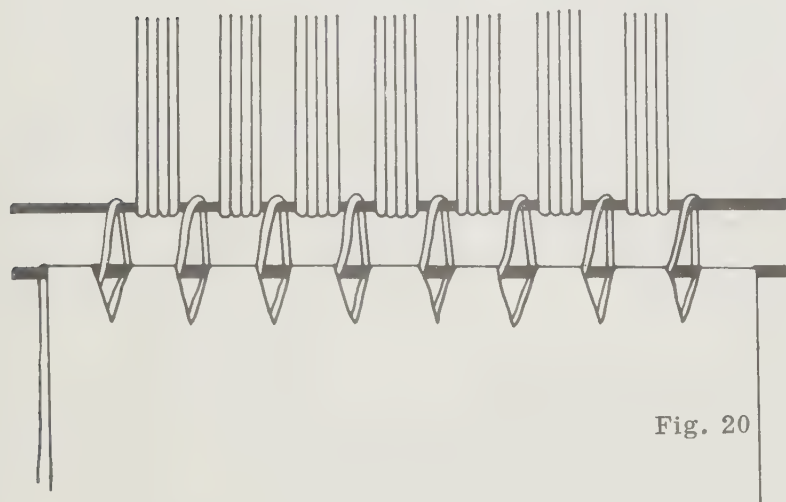

Fig. 20
4. Catch all loops on a metal rod. Spread evenly. With long cord, lash the rod with the loops to a similar rod in the hem of the canvas apron on the back roller, making sure that the apron comes up the back of the loom and over the back bar which is above the roller. See Fig. 20.